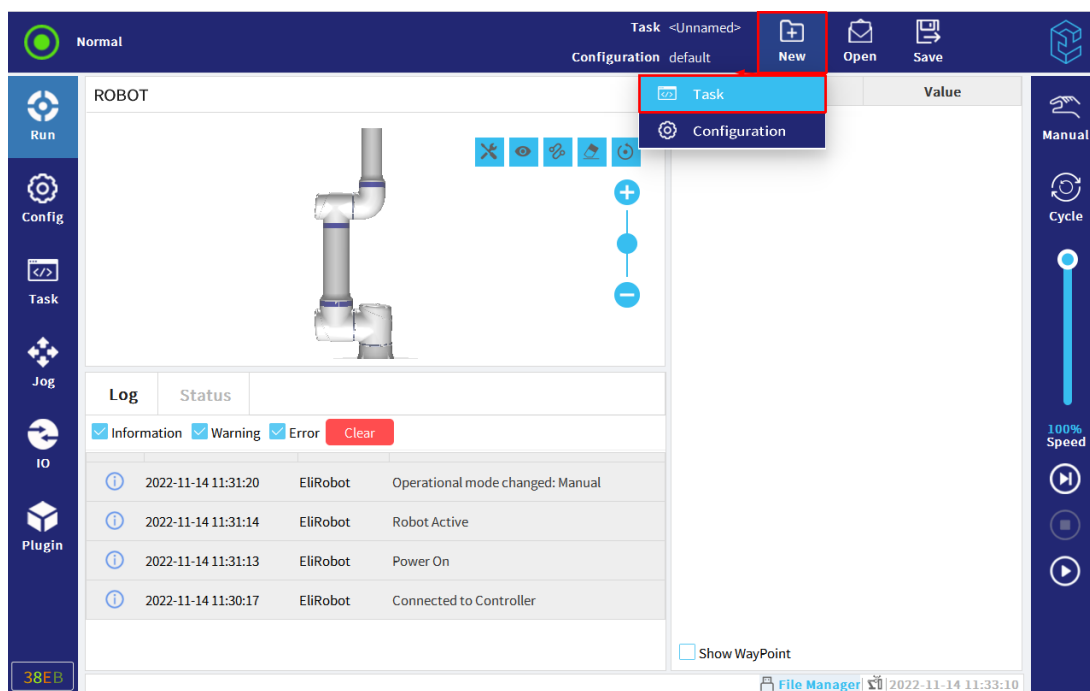

Figure 3-7 : New task
1. In task and configuration manager, click "New", and then select "Task", as shown in **Figure 3-7**.